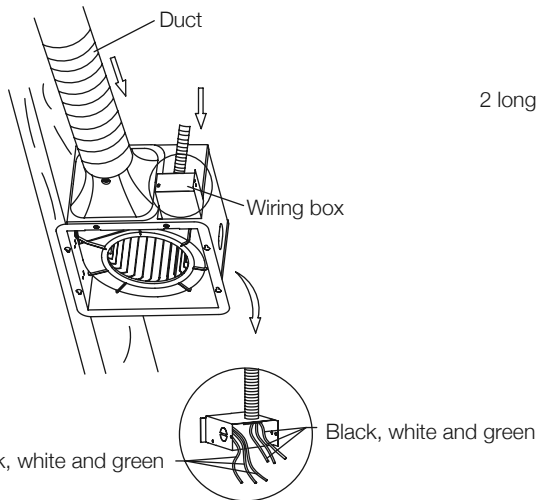

Figure 3
3. Refer to wiring diagram, and using wire connectors, connect house power wires to ventilating fan wires: black to black; white to white; green to green. Replace the junction box cover (Fig. 3).